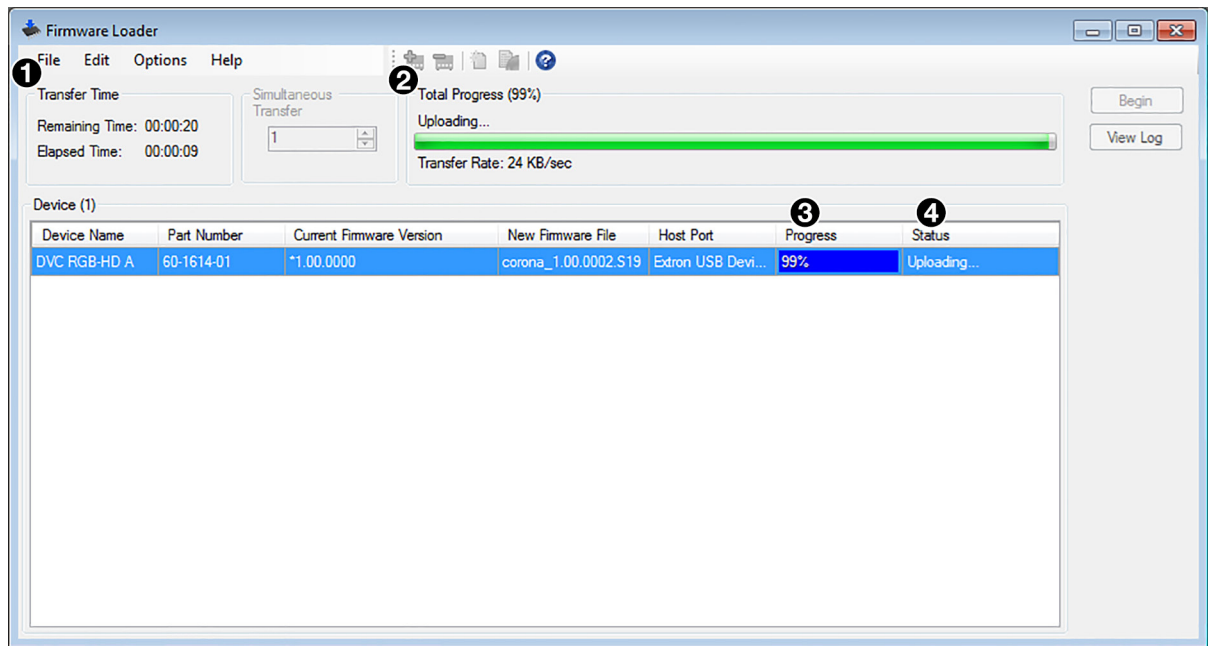

Figure 21. Firmware Upload in Progress
- The **Transfer Time** panel (see **figure 21**, **1**) shows the remaining and elapsed time for the update.